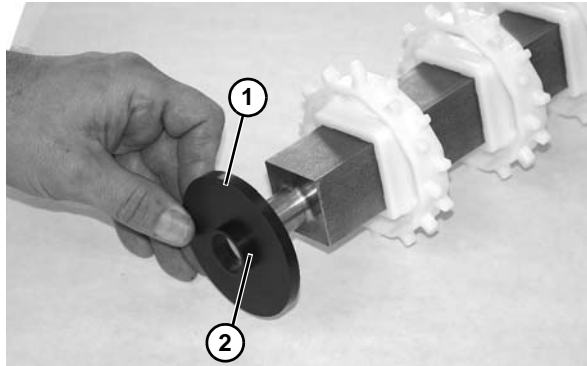

Figure 58
12. Remove washer (**Figure 58, item 1**), as shown, making note of flange area (**Figure 58, item 2**) of washer. Repeat on opposite side, if needed.